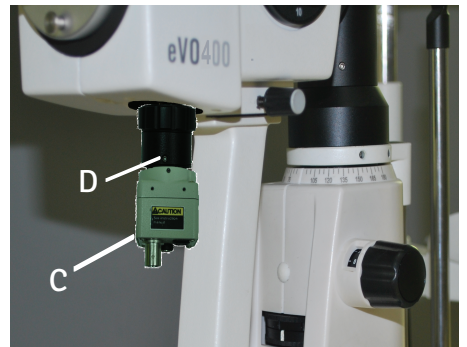

Figure 14
3. Remove the Dust Cover from the Camera and fix the Camera by rotating it clockwise into the Lens Adapter. Shown as (C)., Refer Figure. 14.